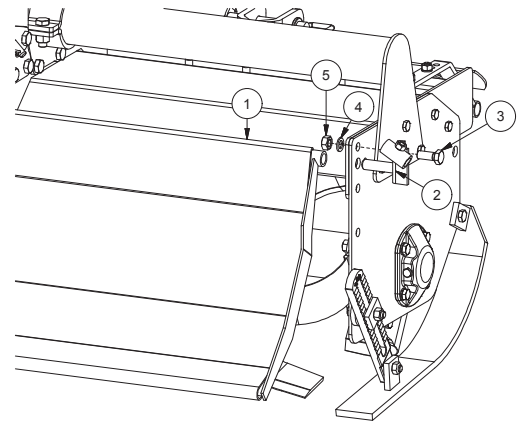

FIG. 11
- Fit read hood (1, Fig. 11): place it between the frame sides; insert the supports (2) through the hood and both the sides; stop the supports with screw (3), washer (4) and nut (5).